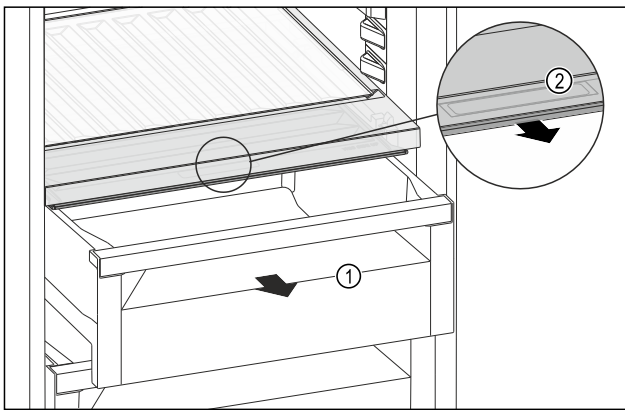

Fig. 168
- Pull out the drawer Fig. 168 (1).
- Grip the handle recess Fig. 168 (2) on the lid while pulling the lid forward at the same time.